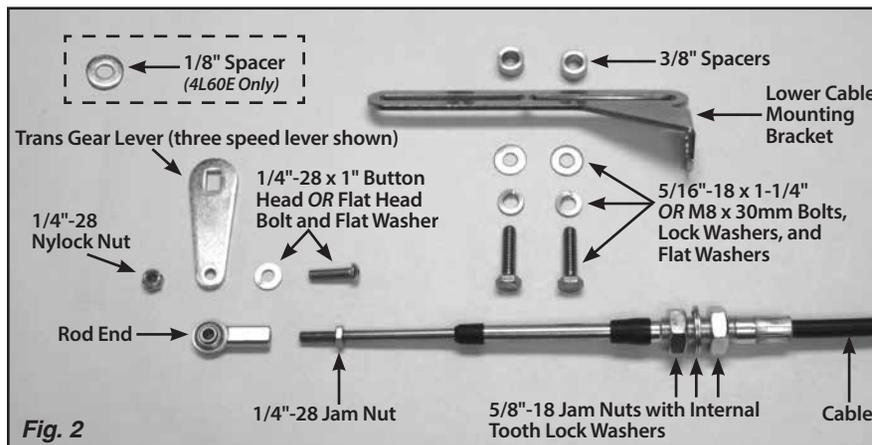

Fig. 2
**Step 3:** There are two pairs of floor mount tabs in the Shifter Kit. Which pair goes where will depend on if you are mounting the Shifter above or below the floor. See Fig. 2 to determine how the floor mount tabs need to be positioned for your particular application.
Attach the floor mount tabs to the floor mount mounting bracket as shown in Fig. 2 with the 5/16"-24 x 1/2" button head bolts and lock washers. Leave the bolts loose enough so that adjustments can be made later during the installation.